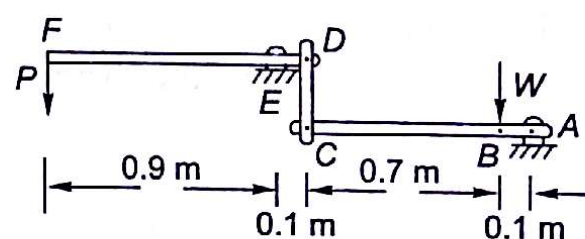

Fig. 3.50
3.4 Fig. 3.50 shows a system of levers ABC and DEF with fulcrums at E and A . How much load W can be lifted by an effort $P = 80$ N at F ?